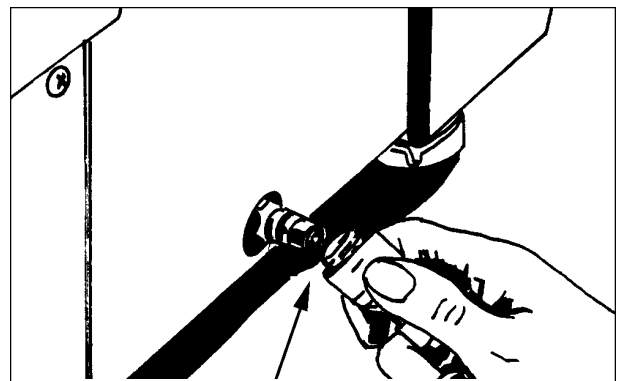

Figure 3
**The Solution Hose Connector See figure 3**